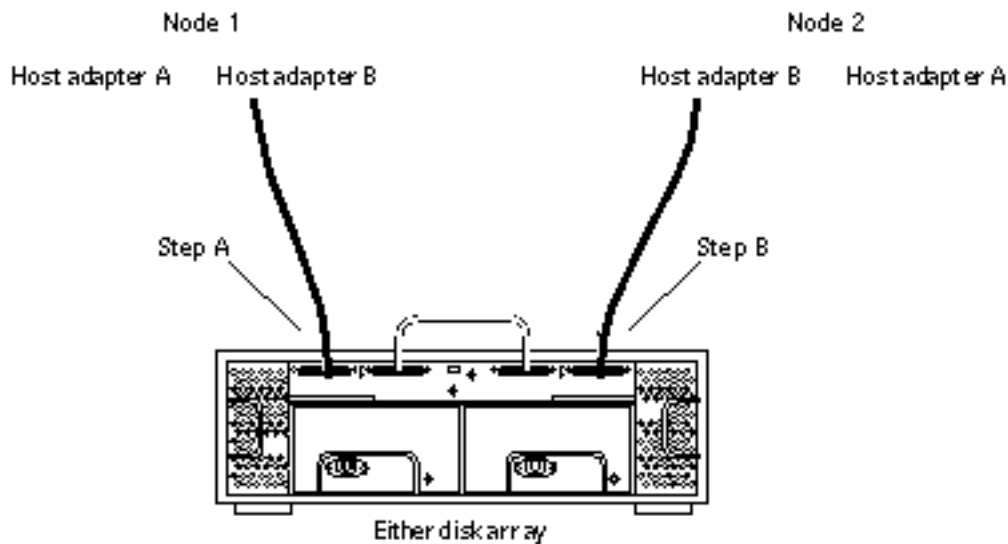

Figure 5-4 Disconnecting the SCSI cables
3. Disconnect the SCSI cables from the disk array, removing them in the order shown in Figure 5-4.
6. Connect the SCSI cables to the new disk array by reversing the steps shown in Figure 5-4.